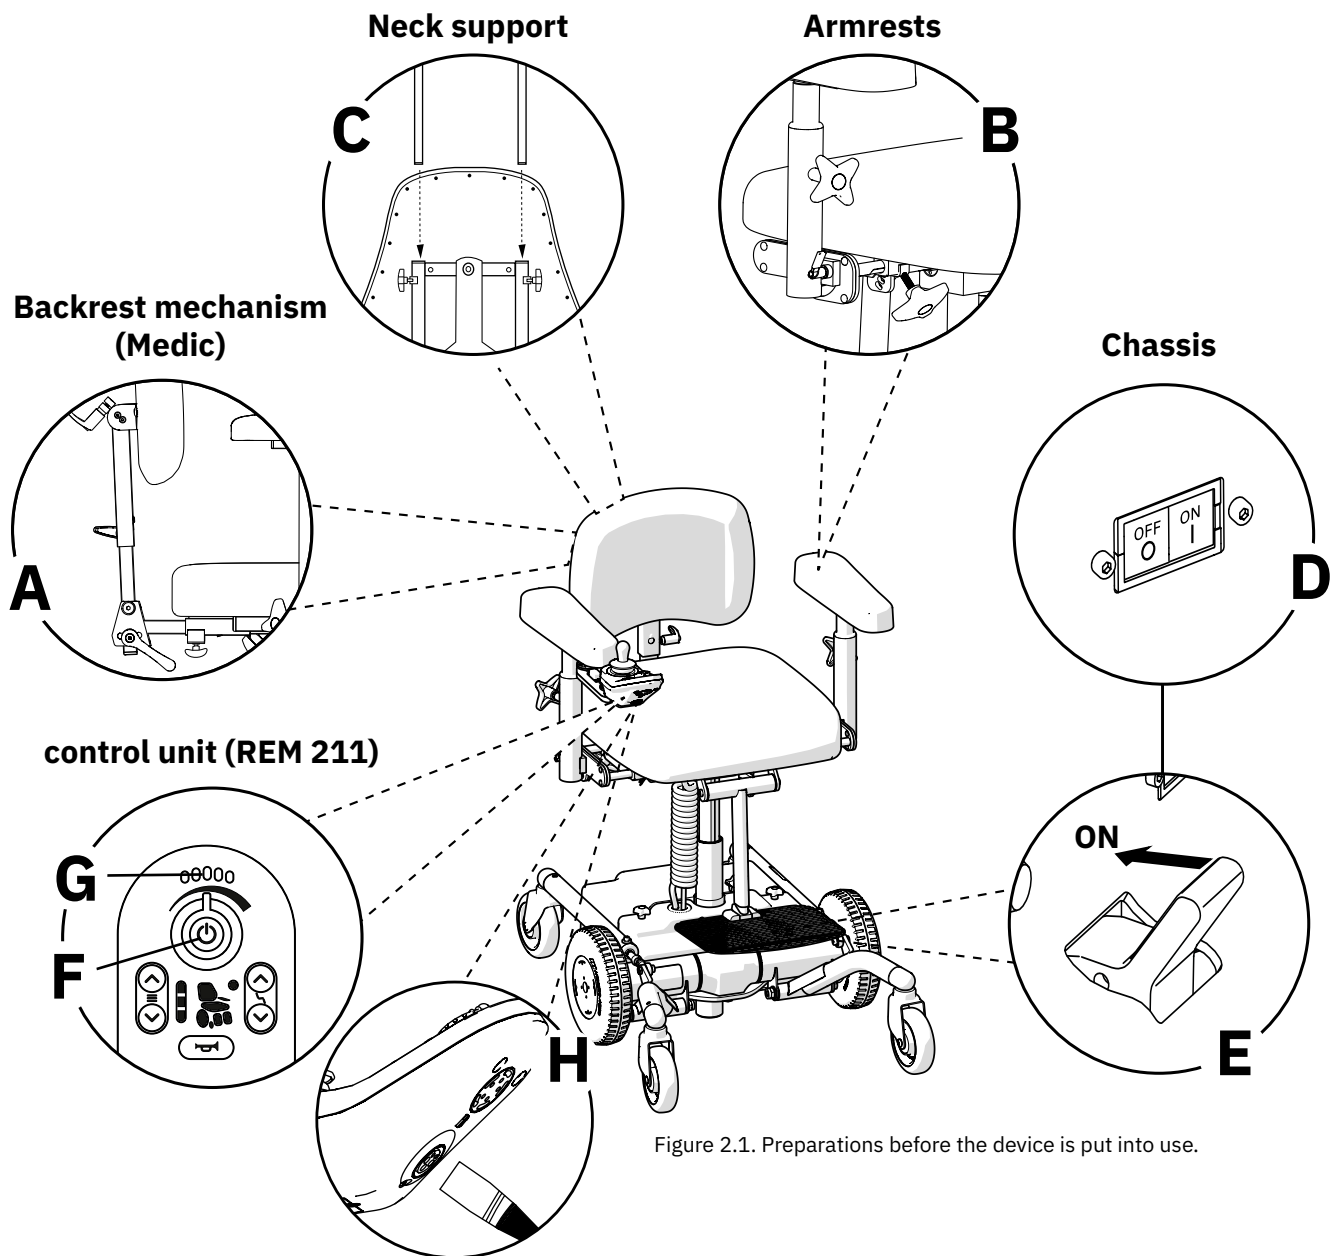

Figure 2.1. Preparations before the device is put into use.
Place the backrest post in the backrest mechanism (A) and set the desired height level, see Figure 2.1. Tighten all levers (A). The image shows one of several back mechanisms available for Mercado Medic devices. Other back mechanisms are mounted in the same way, although the appearance may differ from that in the image.
Loosen the armrest levers (B) and set the desired height and width levels, see Figure 2.1. Tighten all controls (B). Make sure the knob clicks into the locking position when the armrest is lowered. If the knob does not click in position, rotate the knob until it clicks firmly.
If the device is supplied with a headrest, insert the head rest mechanism into the backrest bracket (C) and set the desired height level, see Figure 2.1. Tighten all controls (C).
Check that the circuit breaker is in the "ON" (D) position and that the brake activation lever is in the "ON" (E) position, see Figure 2.1.
1. Turn on the main switch (F), see Figure 2.1.
2. Check that the battery level indicator is at least showing a yellow mark (G). Charge the device if the indicator is showing a red marking. See 2.3. Charging.
3. Make sure the light on the main switch (F) is green.
1. Plug the charging contact into the charging socket. The charging socket is located on the front edge of the control unit and labelled with a battery symbol, see Figure 2.1. (H).